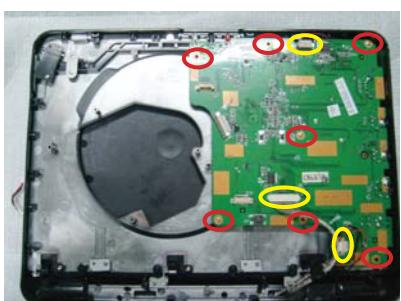

Fig.10
10. Remove main board as Fig.10.